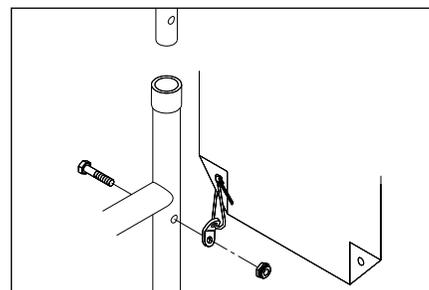

Abb. 6
D. FIXE VORDERE FUßSTÜTZEN JUSTIERUNG (FIG. 6)